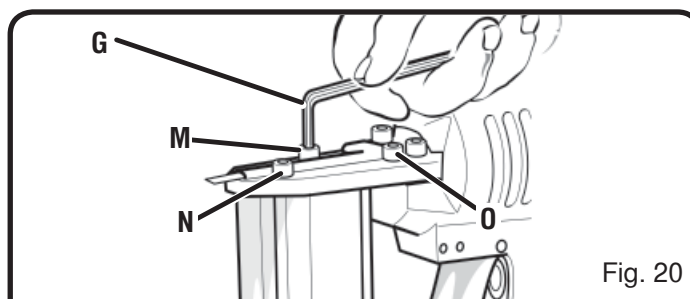

Fig. 20
- 5) Using a suitable Allen wrench (G), remove screws (M) - (N) and (O) located in the top part of the nailer/stapler (Fig. 20).